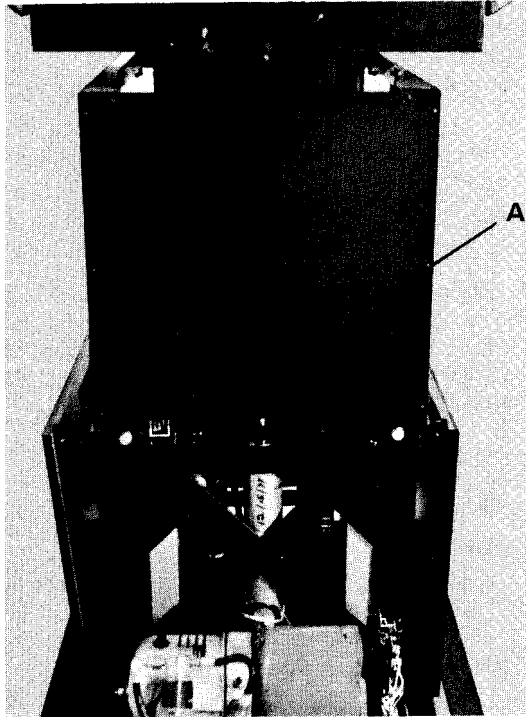

Fig. 12
- 1) Remove rear inner shroud by removing (8) screws, Item A, Fig. 12.
- 2) Replace rear inner shroud by placing shroud in position as shown in Fig. 12, aligning holes, and installing (8) #6 x 3/8" screws, Item A, Fig. 12.